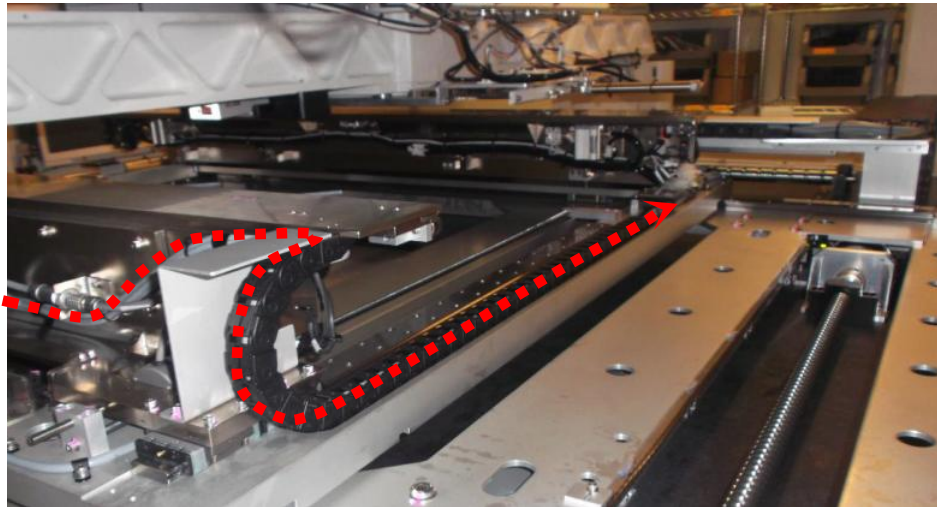

Figure 10 Stepper Motor Cable Removal (AWA E-Chain)
14. Remove 4LASC-A079 from AWA E-Chain as below Figure 10